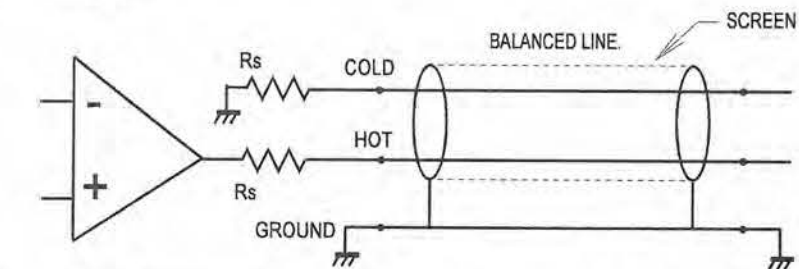

Fig. 4b. An impedance balanced output. The cold output is connected to ground through a second  $R_s$  of identical value.
**Impedance balanced output.** There are now three physical terminals, hot, cold, and ground, Fig. 4b). The cold terminal is neither an input nor an output, but a resistive termination with the same resistance  $R_s$  as the hot terminal output impedance. This type of output is intended for use with receiving equipment having balanced inputs. The presence of the second  $R_s$  terminated to output ground makes the impedance on each signal line almost exactly the same – apart from op-amp output impedance limitations – so that good rejection is achieved for both common-mode ground voltages and electrostatic interference.